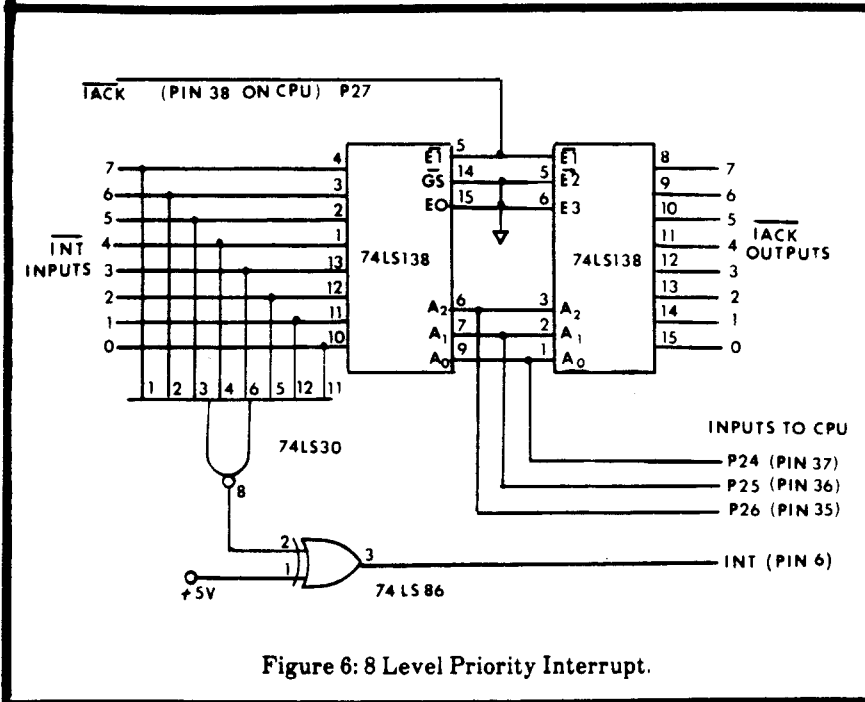
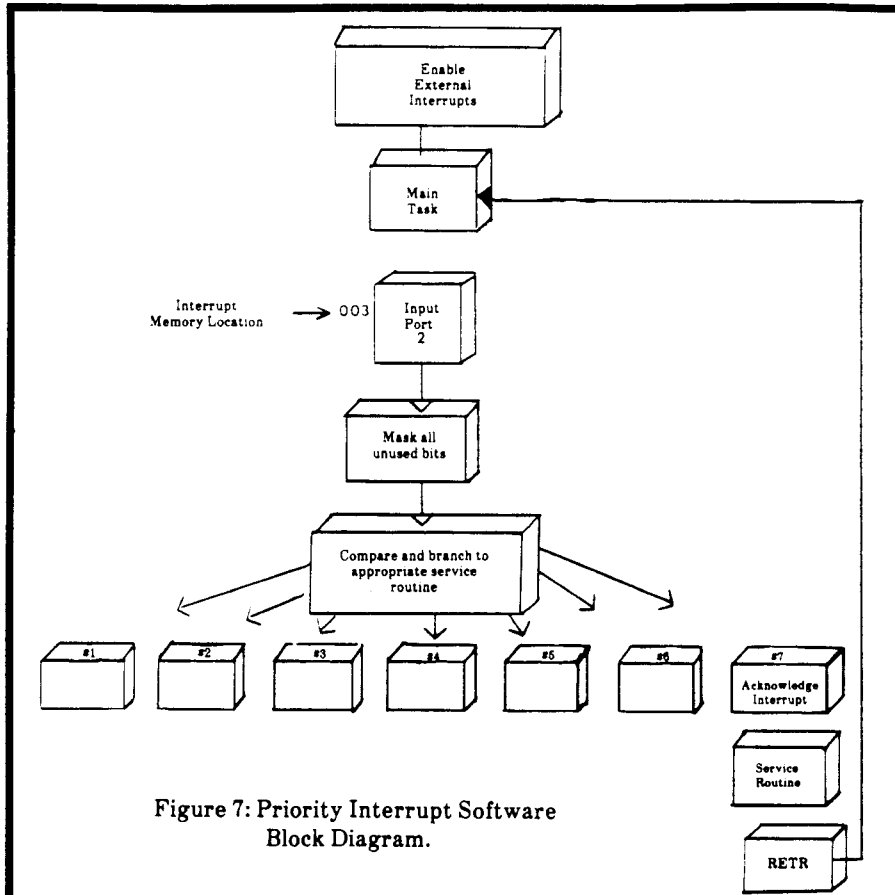

Figure 6: 8 Level Priority Interrupt.
Figure 7: Priority Interrupt Software Block Diagram.
**Eight Level Priority Interrupt.** The interrupt function is typically one of the most interesting circuits in control computer application. The CD-1 is no exception, as it contains an eight level priority interrupt capability. The priority interrupt scheme of the CD-1 is both software and hardware dependent. The circuit for the priority interrupt scheme is shown in Figure 6, and the software flow chart is shown in Figure 7.
Referring to Figure 6, the interrupt request lines are tied to the inputs of a 74148. The 74148 is an 8 line to 3 line octal priority encoder, and its truth table is shown in Table 1. Referring to Table 1, pins  $A_0$  through  $A_2$  on the 74148 output a binary number which represents the highest priority input which is set to a logic 0.  $A_0$  through  $A_2$  are also connected to the four highest order bits of I/O port 2 on the 8035, and upon being interrupted the CPU is instructed to immediately input I/O port 2 to the accumulator. All bits except bits 4, 5, and 6 are then masked out, and comparisons are executed in order to branch to the appropriate service routine. A program listing of the procedure is shown in Figure 8. Immediately after the branch is accomplished the service routine should acknowledge that the interrupt has been received. This is done via a negative going pulse on the appropriate interrupt acknowledge ( $\overline{IACK}$ ) output of the CD-1 (see Figure 6). The  $\overline{IACK}$  is generated in the following manner: